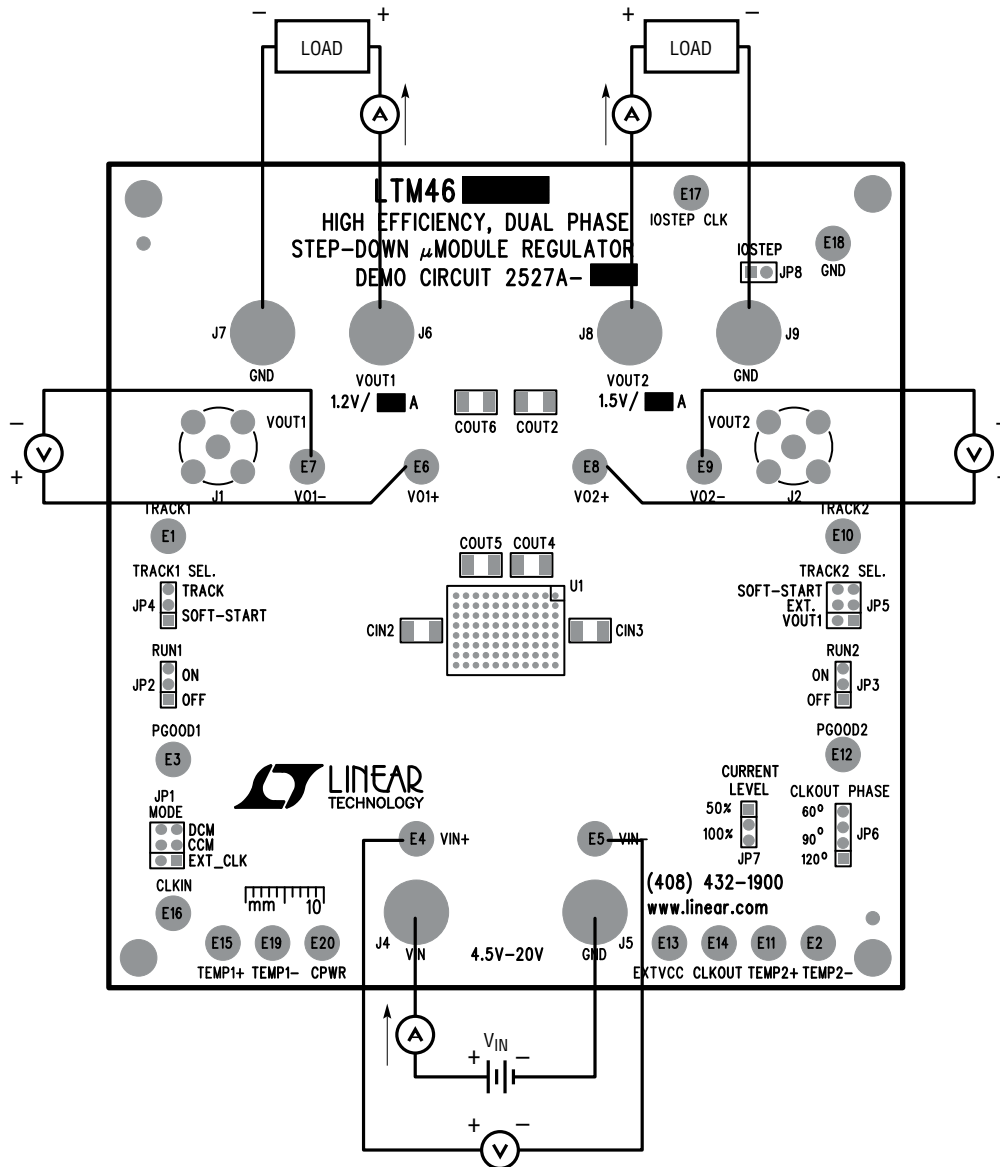

Figure 1. Measurement Setup of DC2527A
Demonstration circuit DC2527A-B is an easy way to evaluate the performance of the LTM4646EY. Please refer to Figure 1 for proper measurement equipment setup and follow the procedure below:
- With power off, connect the input power supply, load and meters as shown in Figure 1. Preset the load to 0A and VIN supply to 12V.